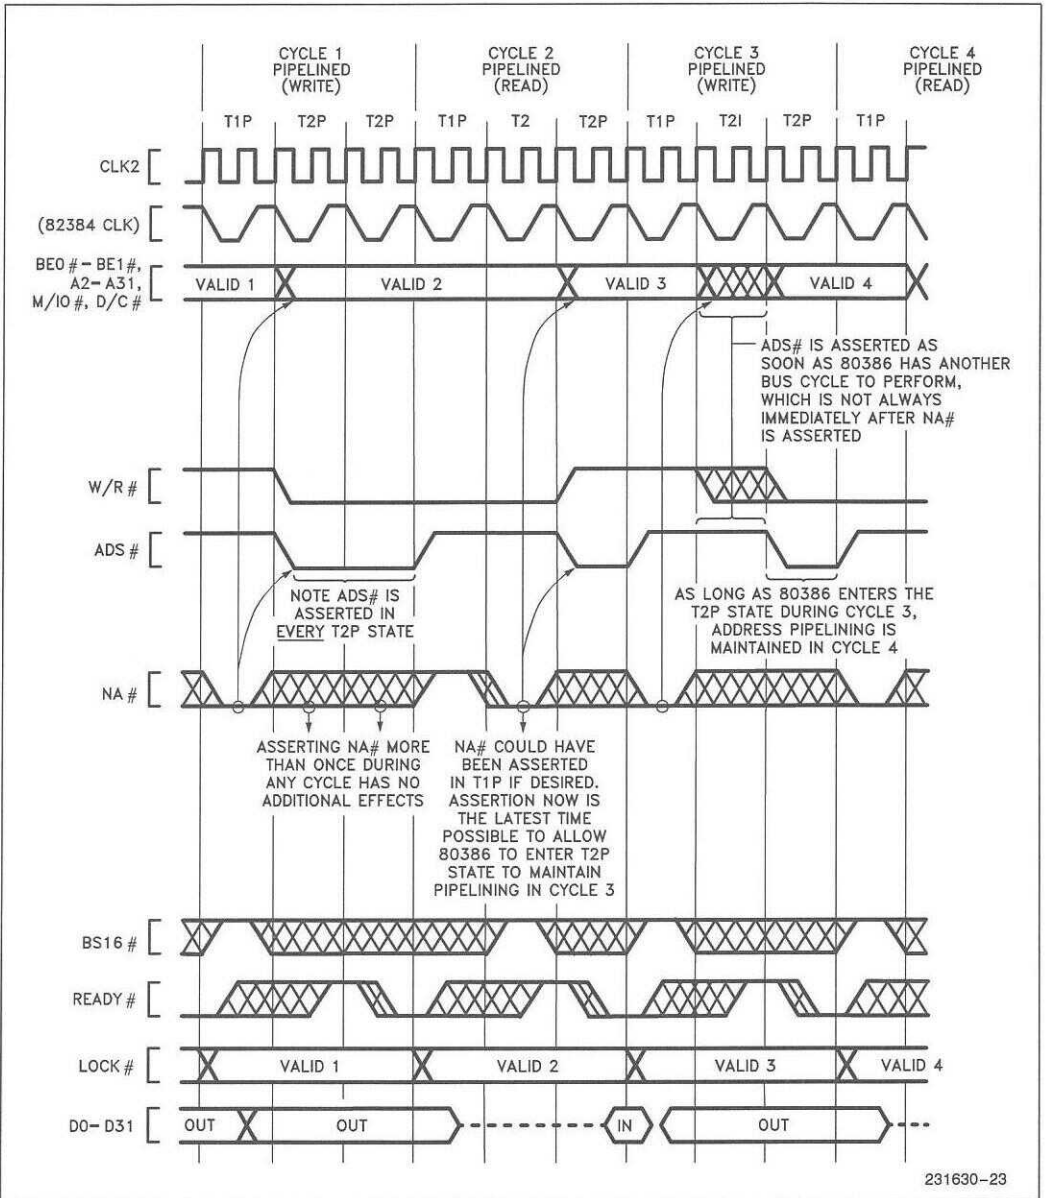

Figure 5-19. Details of Address Pipelining During Cycles with Wait States
- 2) The next address may appear as early as the bus state after NA# was sampled asserted (see Figures 5-16 or 5-17). In that case, state T2P is entered immediately. However, when there is not an internal bus request already pending, the next address will not be available immediately after NA# is asserted and T2I is entered instead of T2P (see Figure 5-19 Cycle 3). Provided the current bus cycle isn't yet acknowledged by READY# asserted, T2P will be entered as soon as the 80386 does drive the next address. External hardware should therefore observe the ADS# output as confirmation the next address is actually being driven on the bus.
- 5) Only the address and bus cycle definition of the very next bus cycle is available. The pipelining capability cannot look further than one bus cycle ahead (see Figure 5-19 Cycle 1).